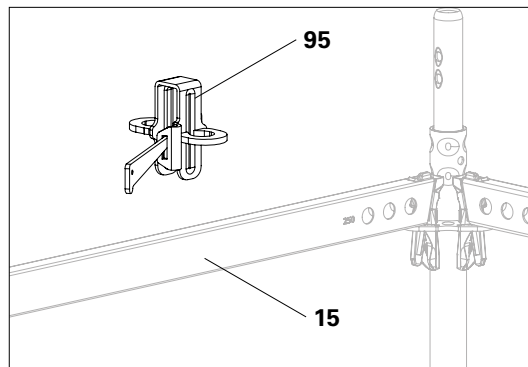

Fig. A11.09a
1. Pull the wedge out of the clamping part and put the clamping part over the ledger (15). (Fig. A11.09a)
3. Hook the ledger (15a) from above into the Ledger Bracket UHA half (95), do not tighten the wedges yet.